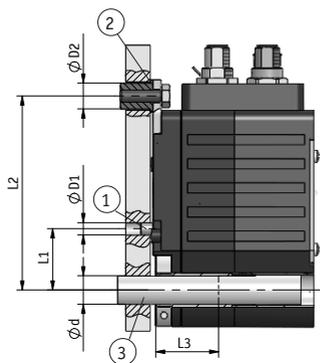

Fig. 1: Mounting dimensions
- ▶ Ensure a low shaft and angle offset between shaft and accommodation bore by applying appropriate manufacturing methods (see **Fig. 1** + **Tab. 1**).
Preparing mounting (Fig. 1, Fig. 2, Fig. 3, Fig. 4):
Mounting (Fig. 1, Fig. 2, Fig. 3, Fig. 4):